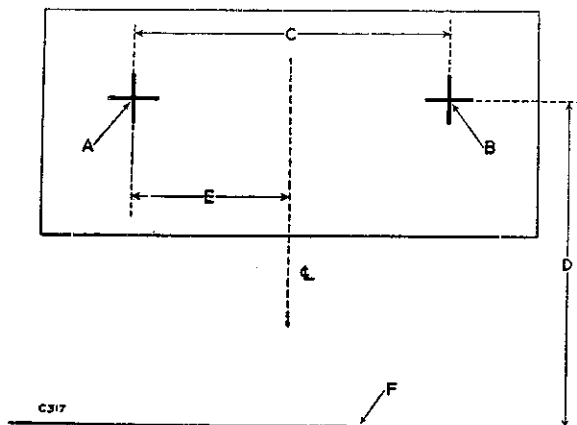

Fig. 46 Headlamp setting board dimensions.
1. Mark on the board the dimensions given in Fig. 46 and position the vehicle, unladen, on level ground.